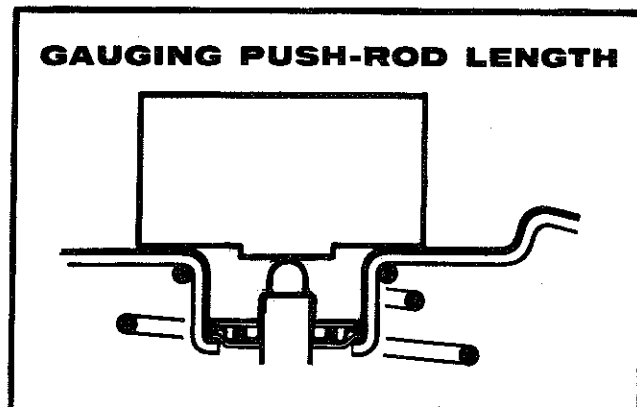

Fig. 7—Checking hydraulic push rod
(5) Insert valve body hub through seal in the rear shell, and lubricate outer edge of diaphragm with PBR Rubber Grease to facilitate easier assembly of the shells.
(6) Install rear shell on base plate of special tool E79-D and secure in position.
(7) Install return spring in rear shell.
(8) Position front shell on rear shell with scribe marks adjacent to one another, secure bar to front shell studs with the two attaching nuts.
(9) Tighten hold down clamp and compress the diaphragm return spring until the front shell is mated with the rear shell.
(10) Rotate bar clockwise until front and rear shells are locked together, then remove from tool.
(11) Install air filter element into valve body.
(12) Place silencer and rubber boot over valve rod and valve body.
(13) Install hydraulic push rod into front shell and ensure that end of push rod is located correctly in valve body.
(14) Position support plate into front seal, and install them into front shell recess.
(15) Check that hydraulic push rod recedes the specified distance from face of front shell (Fig. 7).
(16) Insert grommet and then fit vacuum check valve into the front shell.